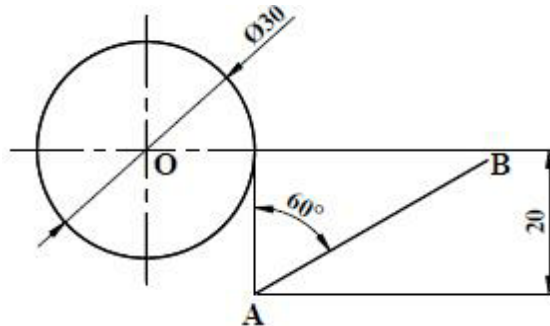

Figure P2.4
4. **Figure P2.4** shows a straight line and a circle.